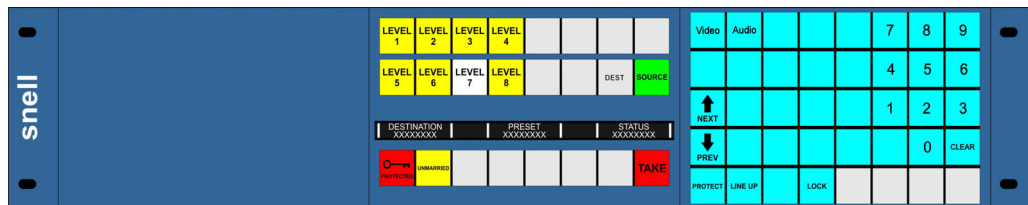

Fig 34. 2RU XY Control Panel
3. Once the start-up sequence has been completed the buttons will be lit as shown in Fig 34.